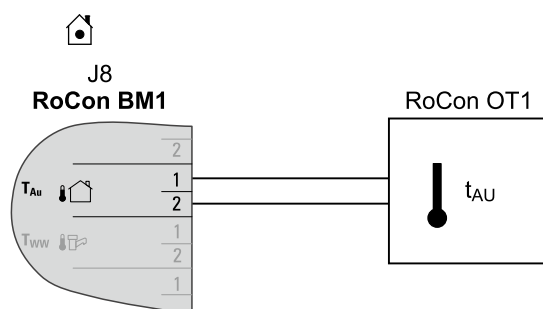

Fig. 3-23 Connection of the exterior temperature sensor RoCon OT1 to the Daikin Altherma EHS(X/H) (operating as a single solution or master in a data bus)
- Connect the sensor line to the plug connection J8 on the board RoCon BM1 (see fig. 3-23).